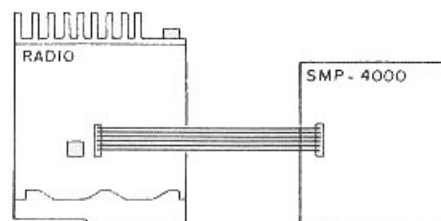

Figure 3
You have two programming alternatives once you have removed the top of the SM-4150 mobile: 1) you can use the interface cable and make the programming connection (as illustrated in Figure 3), or 2) you can remove the EEPROM from the radio and place it in the Textool on the top panel of the programmer.
1) The interface / programming cable is provided so that you can minimize the handling of your radio's EEPROM during the programming process. The connectors on both ends of the interface cable are designed for ease of installation and use. Simply connect the cable to the 6-pin in-line connector inside the radio unit (see Figure 3) and the 16-pin connector on the top of the programmer.